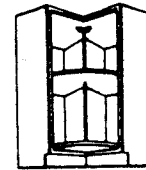
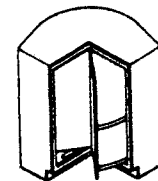
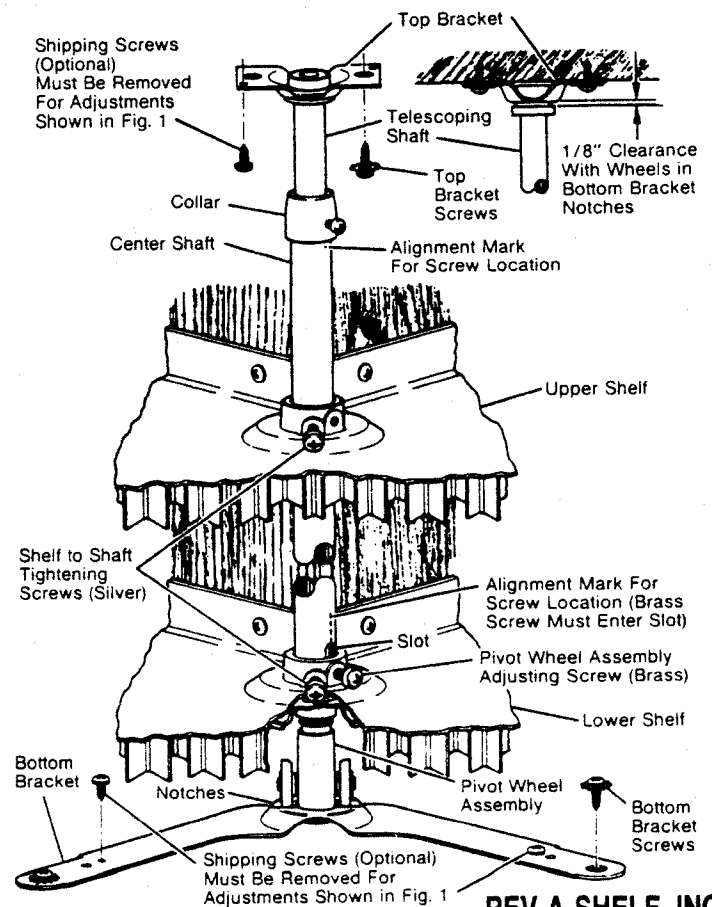

FIGURE 2
FIGURE 3
FIGURE 4
- Unit is Hard to Turn - But No Physical Interference is Observed:** Open door 180° (Fig. 2). Inspect clearance between top pivot bracket and the shoulder of the plastic bearing (See Fig. 4). This clearance must be 1/8" from the pivot bracket to allow for the rise of the shaft as the wheels roll out of the notches in the bottom bracket. Loosen screw in collar to adjust telescoping shaft for proper bearing clearance.
NOTE: Some cabinet makers use shipping screws. These screws must be removed and discarded before adjustment of top or bottom pivot position can be made (Fig. 4).
**Adjustment:** Open door 180° (Fig. 2). Loosen screws in top mounting bracket. Slide bracket so center shaft is centered and vertical. Tighten top bracket screws. Revolve door to test. It may be necessary to repeat procedure. To adjust bottom brackets, open door slightly to reveal left bottom bracket (Fig. 3). Loosen screw on left bottom bracket. Rotate door in opposite direction until right bottom bracket is exposed. Loosen right screw. Adjust door until shaft is vertical. Tighten bottom bracket screws. Rotate door to test. Repeat adjustments until door is aligned.
- Insufficient Top or Bottom Clearance of Door and Frame:** Door/Shelf unit strikes top or bottom of frame and seems to tighten with each revolution. CAUSE: Pivot wheel assembly adjusting screw (brass screw) is not correctly positioned through slot and secured tightly to pivot wheel assembly (See Fig. 4). Lower shelf has two screws. The brass pivot wheel assembly adjusting screw must extend through the slot in the center shaft to lock the pivot wheel assembly to the center shaft. This may be visually verified even though the slot is not visible by checking that the brass screw is aligned with the alignment mark on the shaft which is directly above the slot in the shaft. This screw must be tight to lock height adjustment.
**Adjust:** Open door 180° (Fig. 2) until pivot wheels fall into lower bracket notch. Loosen brass pivot wheel assembly adjusting screw on lower shelf (Fig. 4). Fully turn shelf *counterclockwise to raise door or clockwise to lower door*. Each turn equals 1/16". Tighten Screw. Adjust uneven door closing if necessary (See below) and adjust top pivot to bushing clearance if necessary (See step 1).
**Adjustment:** Open door 180° (Fig. 2) until pivot wheels fall into lower bracket notch. Loosen brass pivot wheel assembly adjusting screw on the lower shelf (Fig. 4) and revolve shelf either right or left. Plastic shelves have two sets of adjustment guide marks molded into the edge. Metal trays have a sticker on the edge with adjustment guide marks. Rotate lower shelf until an equal number of these marks appear opposite the front frame on each side. Tighten screw. Repeat if necessary.